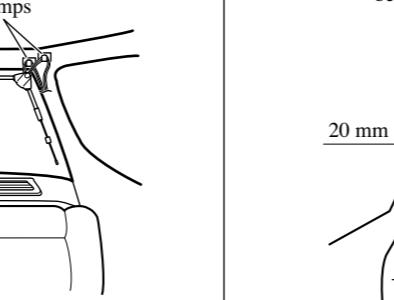

Fig. 4
- To assure optimum reception, it is recommended you mount the TV antenna on a rear (hatchback) windows pointing down as shown in the Fig. 4, Fig. 5 and Fig. 6.
**Example 1: Mounting on a rear window (Fig. 4)**